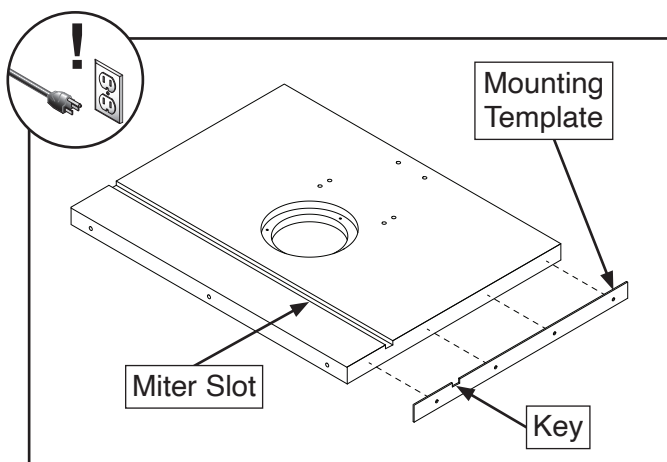

Figure 2. Positioning mounting template.
3. Align mounting template with top edge of table (see **Figure 2**), and ensure key on mounting template is aligned with table miter slot.